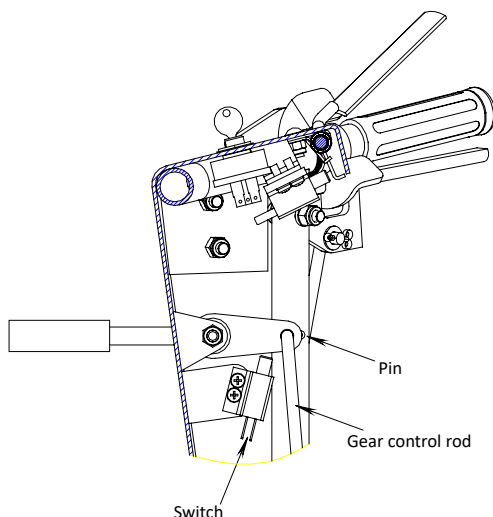

FIG 14.
- Move the gear control rod to the neutral position. The handle should press the pressure switch button down by 5 mm, otherwise the length of the rod should be adjusted. To change the length of the rod, remove the cotter pin from the upper assembly of the gear control rod. Remove the rod from the hole in the lever bracket. Rotate the rod until the desired length is reached to properly press the switch. Reinstall the rod into the hole in the lever bracket and add the cotter pin. (See FIG 14)